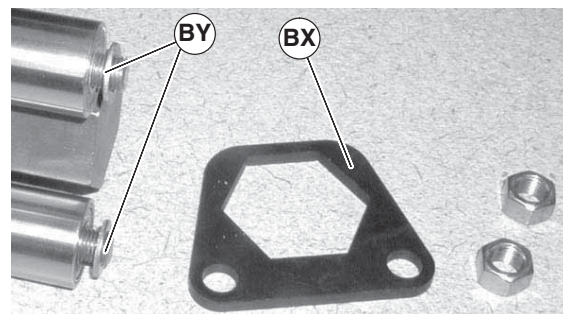

Figure 59
6. Remove support plates (Figure 59, item BX) and washers (BY).